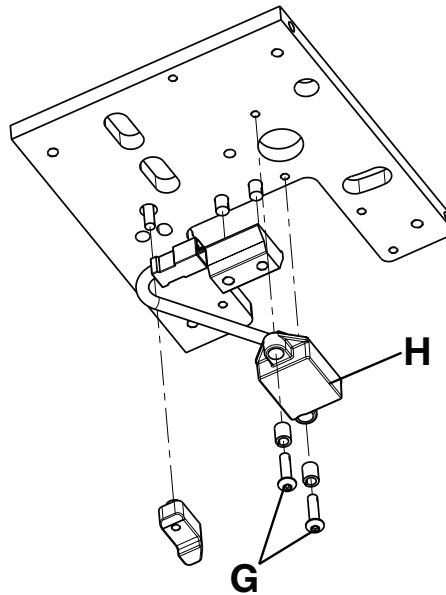

Figure 32 – TPS assembly bottom view
7. Using a 1/4" ratchet and a T25 Torx driver, remove the two button head cap screws (G) that secure the TPS assembly (H) (Figure 32).